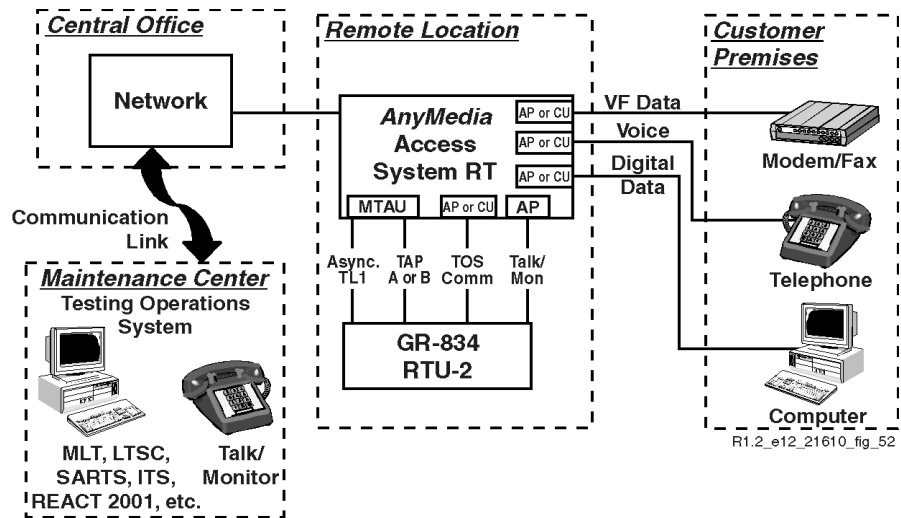
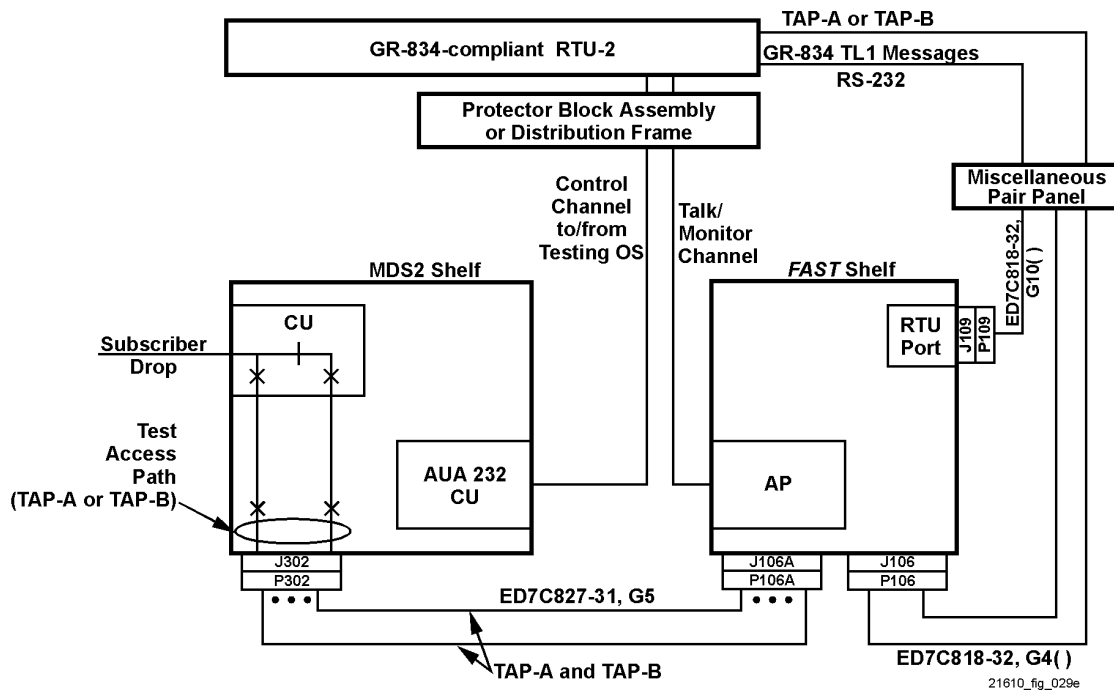

Figure 6-4. Typical Connections of a GR-834-Compatible RTU-2 to an AnyMedia Access System RT
Figure 6-5. GR-834 Testing Environment
Figure 6-4 on page 6-36 gives an overall view of remote on-demand testing using GR-834-compatible testing. Figure 6-5 on page 6-36 gives a more detailed view of the connections to the *AnyMedia* Access System.
As shown in Figure 6-5, an RTU-2 used for GR-834-compliant testing is connected to the following places:
* In Figure 6-5 on page 6-36, a Dataport CU housed in the MDS2 shelf is assumed for the control channel. This choice is dependent on the particular TOS being used. Connecting to TOSs other than the one (the Lucent SARTS special services TOS) for which this figure was drawn may require using VF APs for both the control channel and the talk/monitor channel.